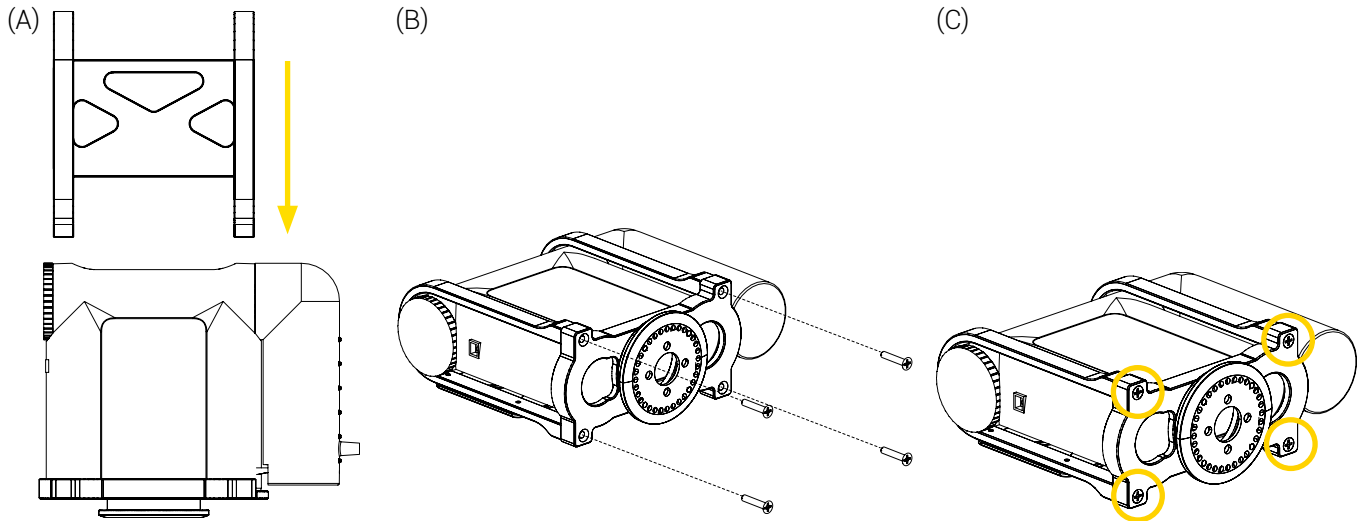

Figure 4: Securing the suction unit in the retaining frame
3. Insert the retaining frame over the suction unit (Figure 4 A).
4. Holding the retaining frame over the suction unit, flip the medical device on its back to access and align the screw holes of the bottom plate and retaining frame (Figure 4 B).
5. Tighten the four (4) screws, using a Phillips screwdriver #2 (Figure 4 C) and torque by hand.